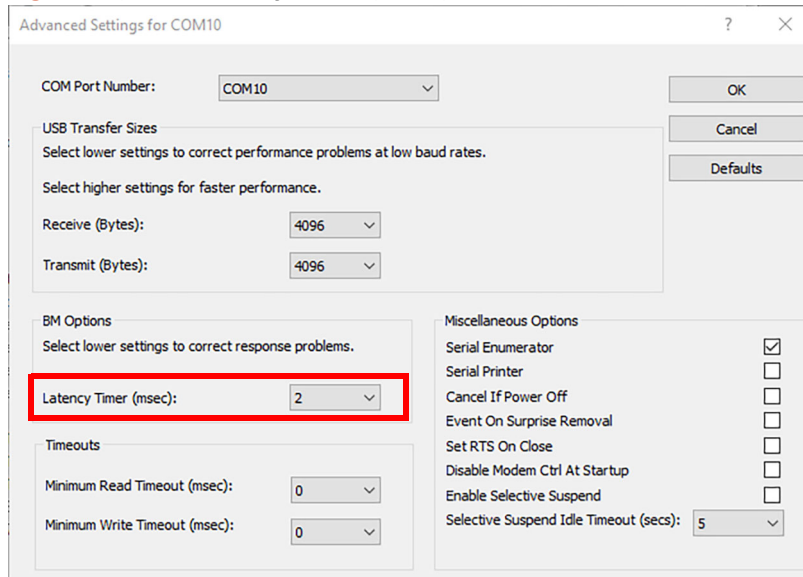

Figure 35 *Advanced Settings Dialog*
4. Select the appropriate **Latency Timer (msec)** setting in the drop-down list (outlined in red in **Figure 35**). The **Latency Timer (msec)** can be set as low as 1 msec.